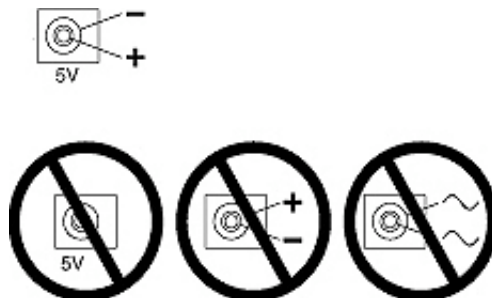

Figure 3-1
- 3) If using an AC-to-DC power supply, review Figure 3-1 for safety notes and the *SPECIFICATIONS* section for voltage and current ratings.